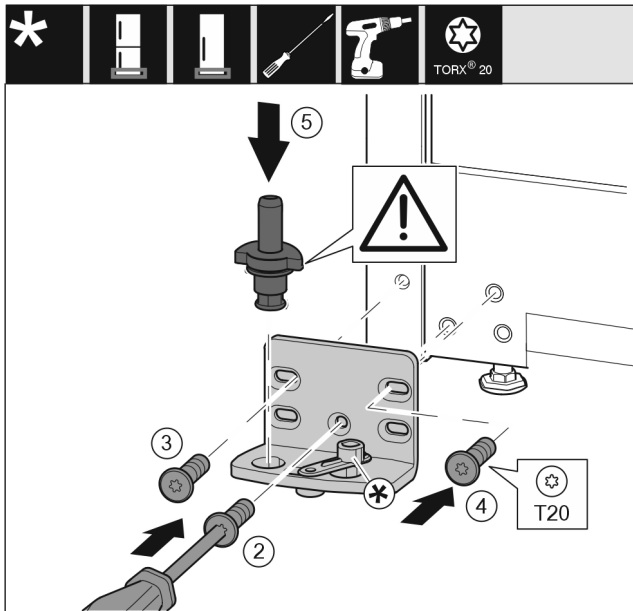

Fig. 19
- Attach the swap bearing block onto the other side and screw it on using a screwdriver. Start with the screw Fig. 19 (2) at the bottom center.
- Tighten screw Fig. 19 (3) and screw Fig. 19 (4).
- Insert the bearing pin Fig. 19 (5) completely. In the process, make sure that the latching cam shows towards the rear.